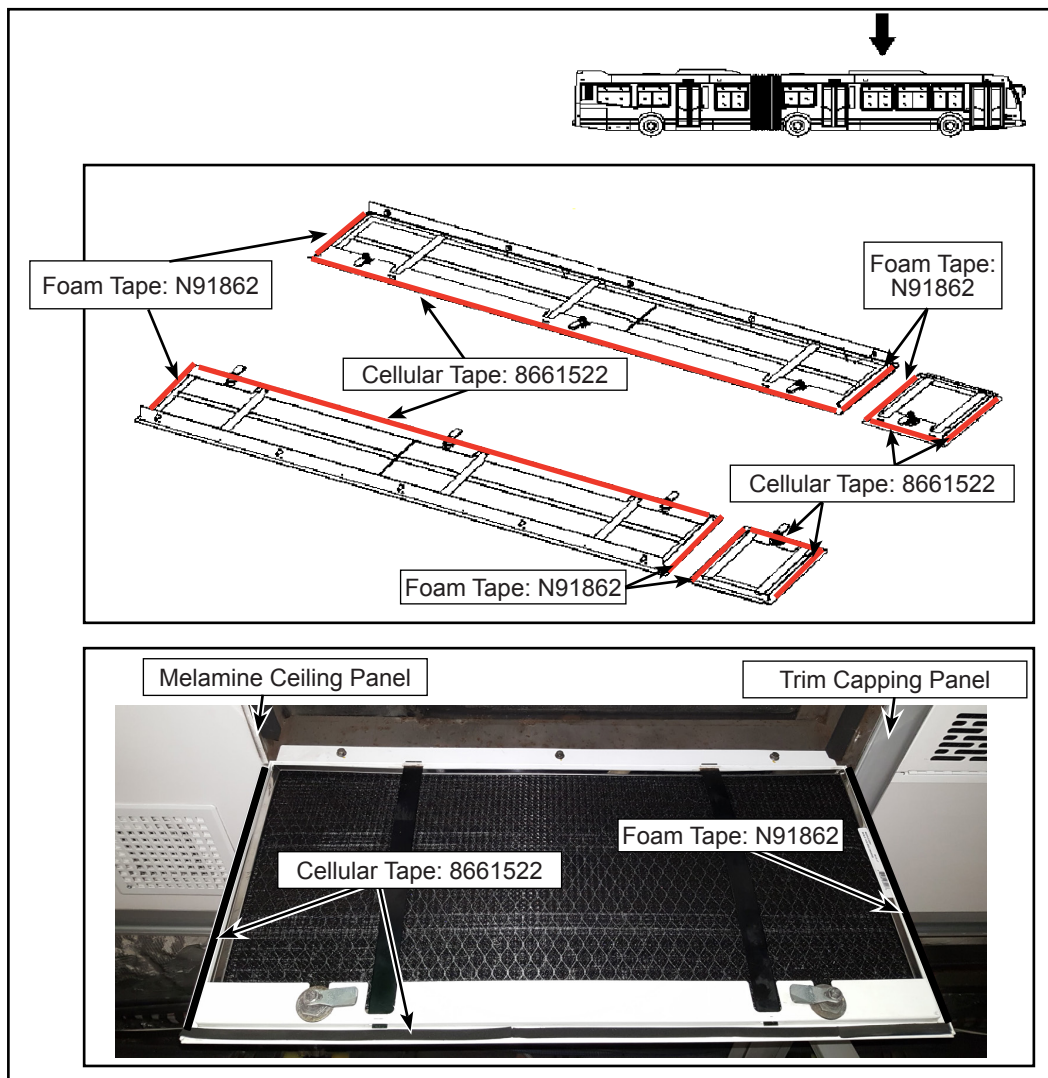

Figure 3 - Installation of Filter and Cellular Tape (Front Section)
- 1.6. Clean the bonding surfaces and install the indicated foam tape on the exterior perimeter of the grill assemblies as shown (see Figure 3). Ensure that there are no gaps left.